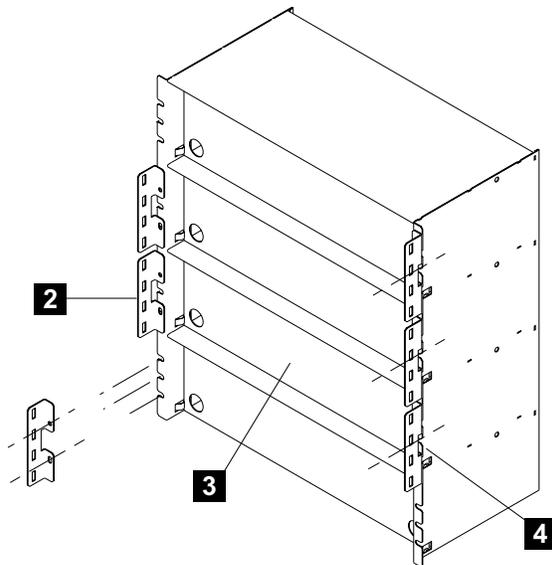

Figure 16. DDM Bay Cable Clamp Brackets (S008609m)
12. Pull the storage bay air door, **3** in Figure 16, down until it latches closed.